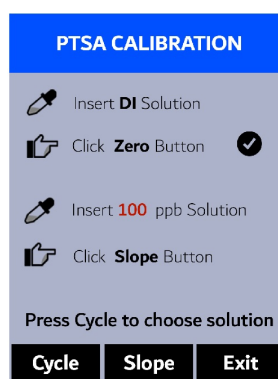

Figure 11.
7. If the calibration succeeds, a checkmark (**✓**) and instructions for the slope calibration will appear (Figure 11).